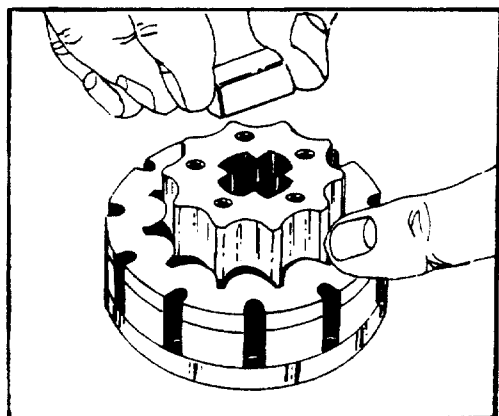

FIGURE 28.
33. Remove drive link spacer (23). See figure 28. Replace it, if it is grooved or worn.